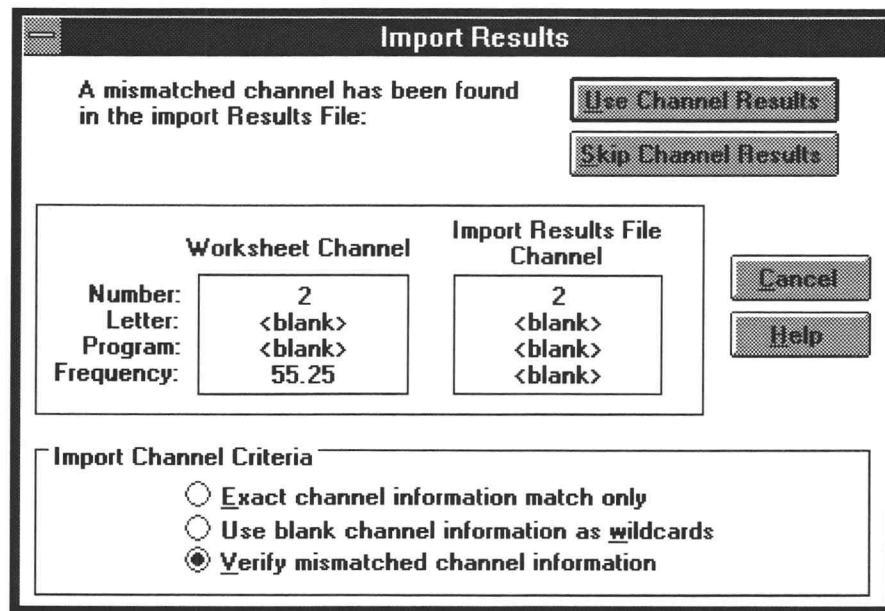

Figure 6-33. The Import Results dialog box.
11. Choose the Yes command button. The dialog box shown in Figure 6-33 appears. This dialog box is the result of a mismatch in the Channel Table. There will always be mismatches in the Channel Table because the 2714 (or 2715) stores only the channel number as the channel ID, while CSS500 stores channel number, tag, program name, and nominal visual carrier. This means that there will never be an exact match.